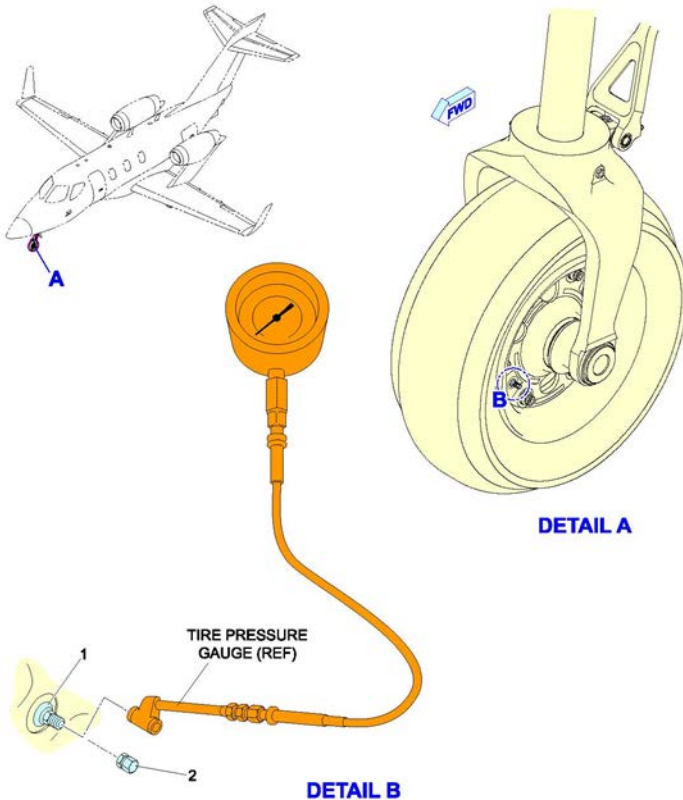

Figure 4-9. Aircraft Tire Servicing
1. Remove the cap (2) from the tire air valve (1) (Figure 4-9).
4. Disconnect the tire pressure gauge from the tire air valve (1).
5. Replace the cap (2) on the tire.